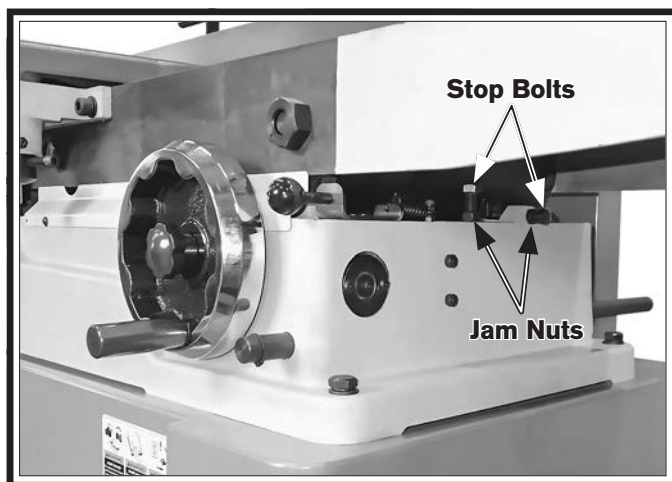

Figure 42. Infeed table positive stop bolts.
3. Loosen infeed table jam nuts and positive stop bolts shown in **Figure 42**.